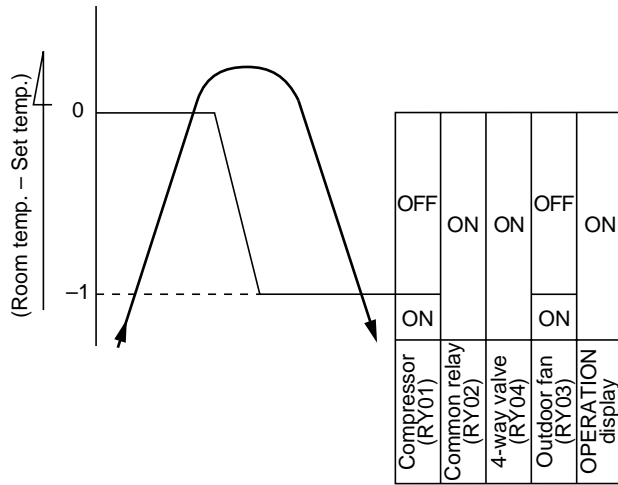

Fig. 7-4-1
- (1) Relays, 4-way valve, outdoor fan and operation display are controlled as shown in Fig. 7-4-1.